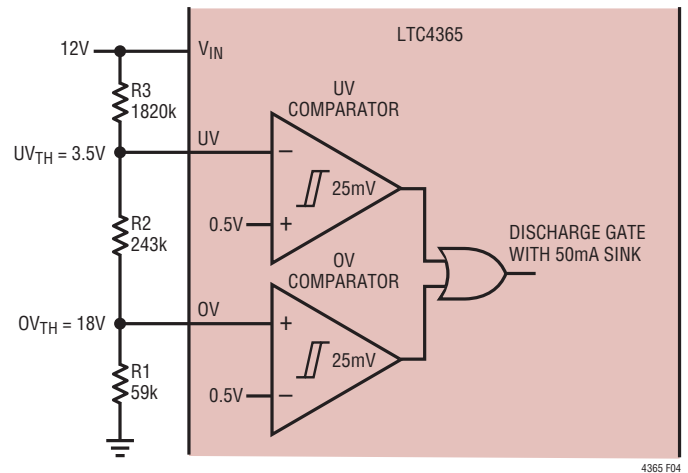

Figure 4. UV, OV Comparators Monitor 12V Supply
The LTC4365 provides two accurate comparators to monitor for overvoltage (OV) and undervoltage (UV) conditions at  $V_{IN}$ . If the input supply rises above the user adjustable OV threshold, the gate of the external MOSFET is quickly turned off, thus disconnecting the load from the input. Similarly, if the input supply falls below the user adjustable UV threshold, the gate of the external MOSFET also is quickly turned off. Figure 4 shows a UV/OV application for an input supply of 12V.
The external resistive divider allows the user to select an input supply range that is compatible with the load at  $V_{OUT}$ . Furthermore, the UV and OV inputs have very low leakage currents (typically  $< 1nA$  at  $100^\circ C$ ), allowing for large values in the external resistive divider. In the application of Figure 4, the load is connected to the supply only if  $V_{IN}$  lies between 3.5V and 18V. In the event that  $V_{IN}$  goes above 18V or below 3.5V, the gate of the external N-channel MOSFET is immediately discharged with a 50mA current sink, thus isolating the load from the supply.
The following 3-step procedure helps select the resistor values for the resistive divider of Figure 4. This procedure minimizes UV and OV offset errors caused by leakage currents at the respective pins.
The example of Figure 4 uses standard 1% resistor values. The following parameters were selected: